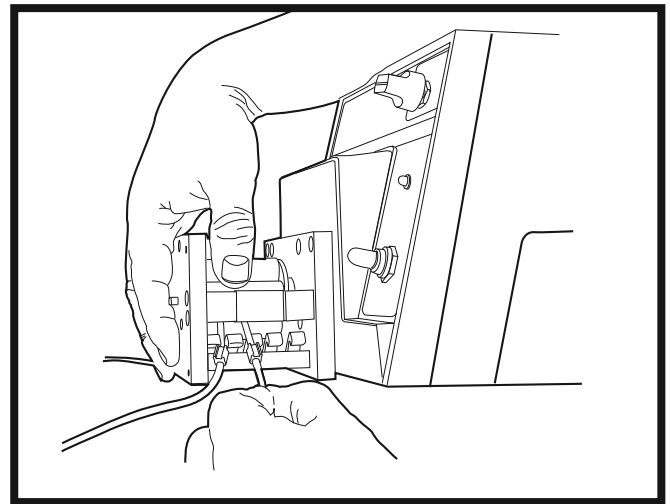

Figure 9. Pull tubing down from slot to release tubing stop collar.
3. Pull tubing down from slot to release tubing stop collar (Figure 9).